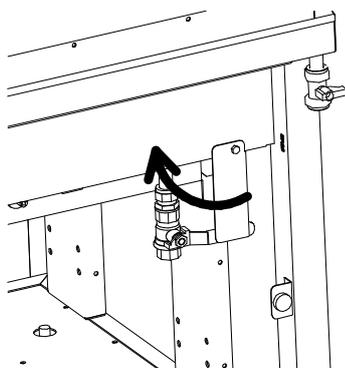

Fig. 6
To turn the unit off completely, slightly depress the control knob (6) and rotate to the "OFF" position, indicated by ●. Close gas and water isolating valves. Drain tank (see Fig. 6) and thoroughly dry inside of tank.
To drain, place a suitable receptacle beneath the valve. Push catch to the left (Fig. 6) and open drain handle (Fig. 7).